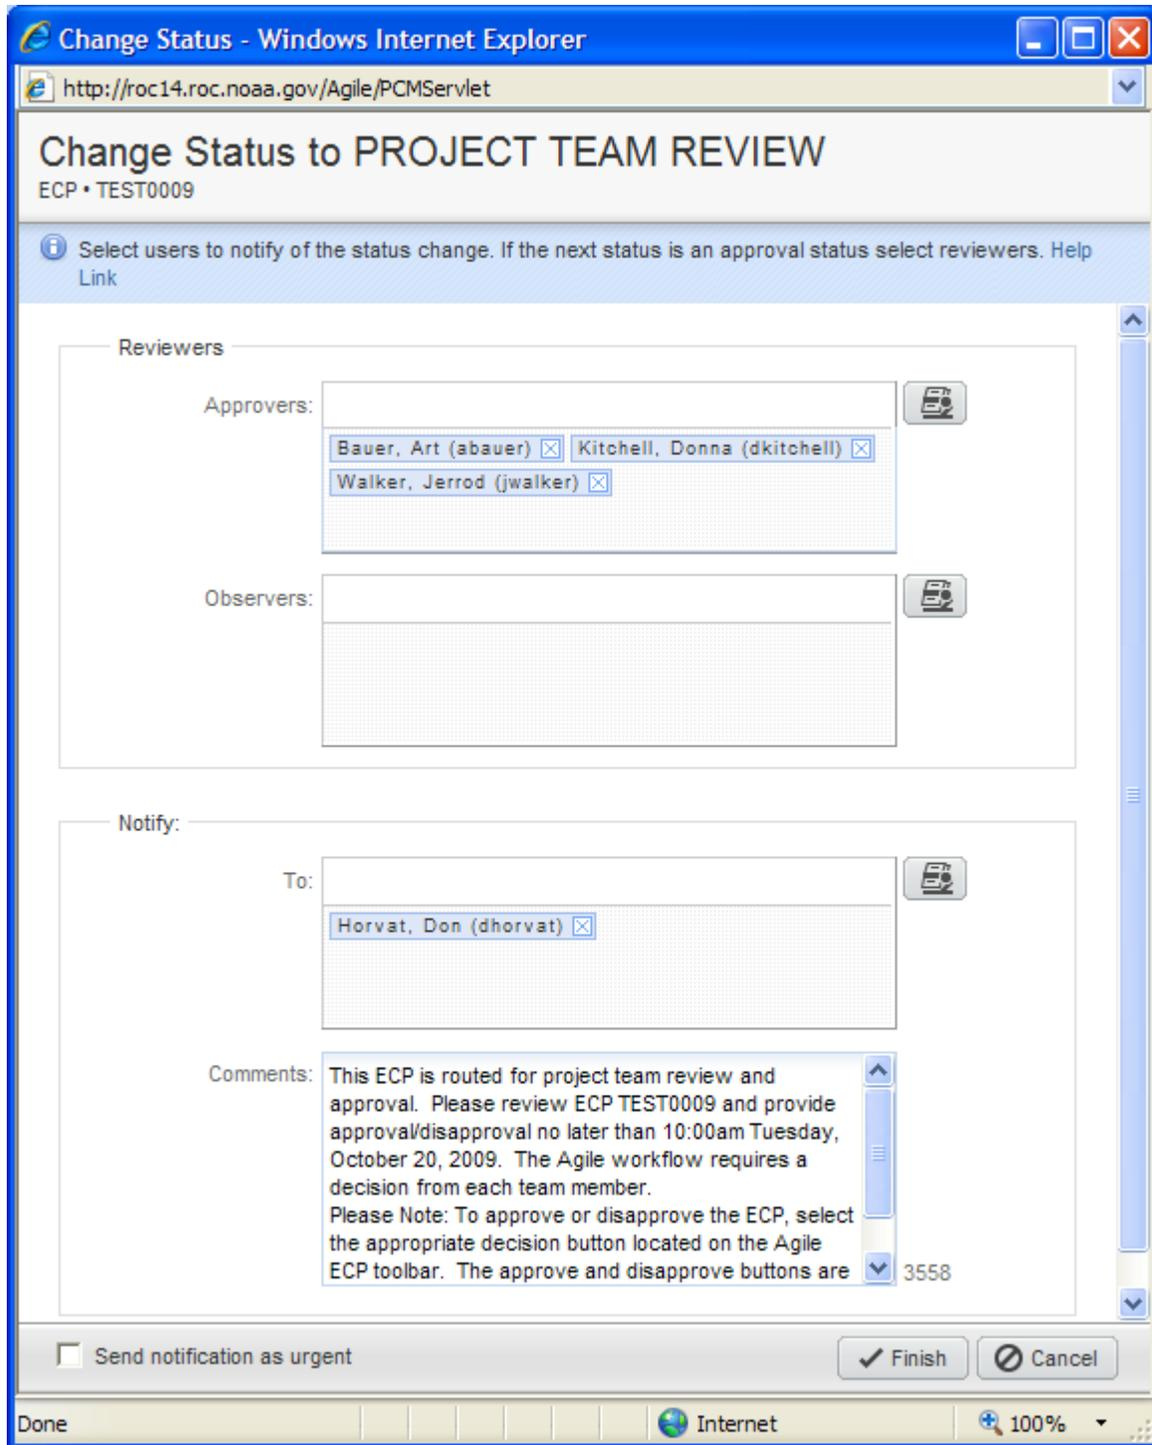

Figure 21: Change Status window.
11. If no errors are detected, the **Change Status** dialog box will be displayed (Figure 21). Agile will populate the **Approver's** block with the team member's names; the originator's name will be displayed in the **Notify** block.
12. In the **Comments** pane, the project lead will enter **instructions** for the team members reviewing the ECP (Figure 21). These instructions should include a **suspense date** by which time the reviewer must have approved/disapproved the ECP. The suspense date will be no later than **7 days** from the date and time the ECP is routed for review.